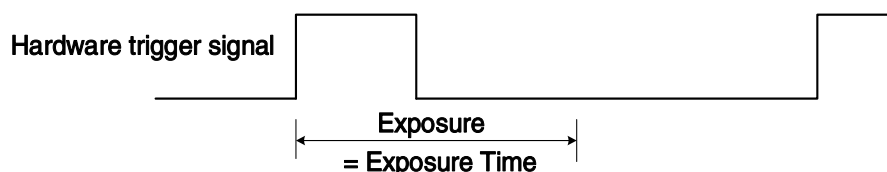

Figure 8-27 The sequence diagram in rising edge trigger of Timed exposure mode
- If rising edge triggering is enabled, exposure starts when the trigger signal rises and continues until the exposure time has expired, as shown in Figure 8-27